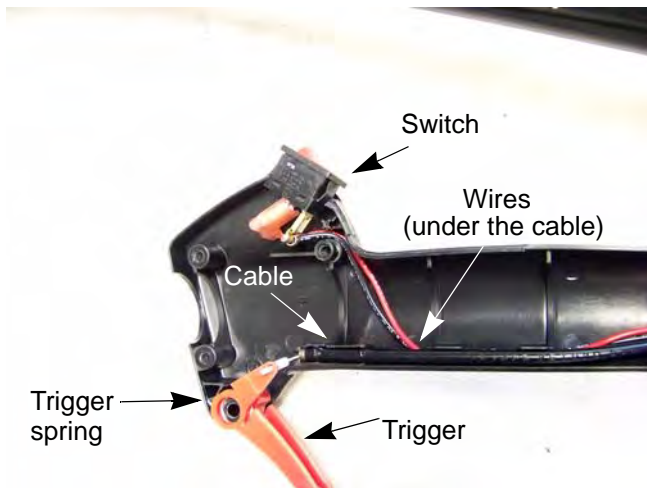

Figure 7.2
**NOTE:** There are a five parts inside the grip assembly. Be careful that they don't fall out of the grip. See Figure 7.2.